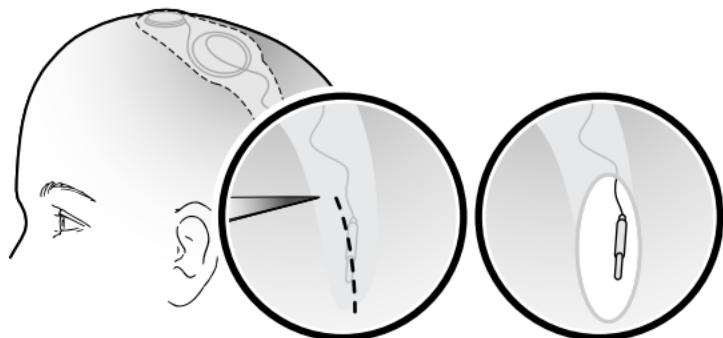

Figure 2. Make incision to expose lead and lead cap.
2. Make an incision sufficient to expose the lead and lead cap. Allow room to hold the lead firmly when accessing the lead cap and when connecting the lead to the extension (Figure 2).